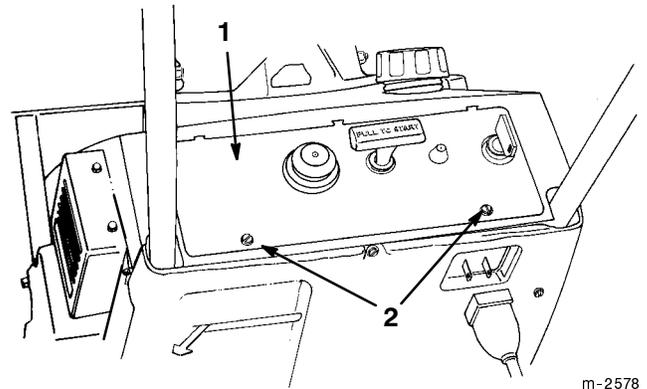

Figure 16
2. Remove the two screws that secure the control panel to the housing (Fig. 16).
- Remove the two screws that secure the control panel to the housing (Fig. 16).